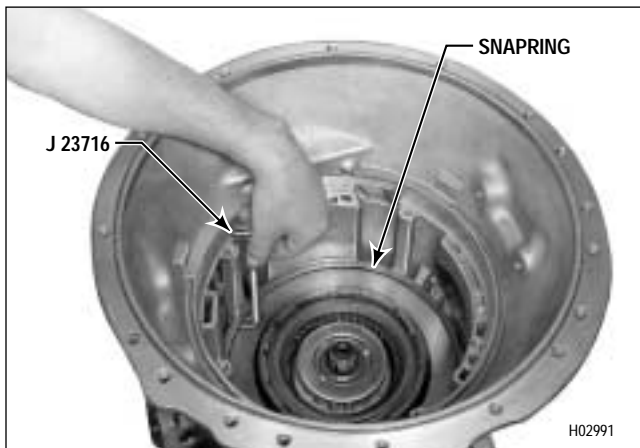
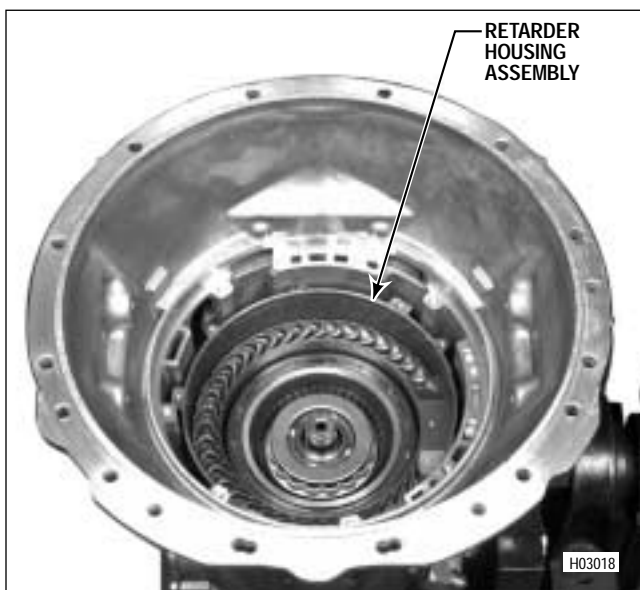

Figure 7-20. Checking Third Clutch Running Clearance (Models Without Retarder)
Figure 7-21. Installing Retarder Housing Assembly (Models With Retarder)
- For models without retarder, proceed with Step (2).
- For models with retarder, skip Steps (2) through (5) and proceed with Paragraph 7-7b.
(2) Install the third clutch backplate, aligning its tangs with those of the three clutch plates (Figure 7-20). For models prior to S/N 3210668026, this plate is identified by the Mark 4. For later models, there is a square stamped on a single external tang.
(3) Install the snapping that retains the backplate (Figure 7-20). The snapping is identified by a green mark and is 0.155–0.157 inch (3.94–3.99 mm) thick. The snapping gap must be at the 12 o'clock position (viewed from the front of the transmission housing), and must be fully seated in its groove.
(4) Using third clutch clearance gauge J 23716 (Figure 7-20), check the clutch running clearance. The thin end of the gauge should pass between the snapping and the backplate; the thick end should not. The running clearance is correct with a dimension of 0.028–0.119 inch (0.74–3.02 mm).
(5) If clearance is excessive (larger end of gauge enters plates), new clutch plates should replace worn plates. Refer to the wear limits in Section 8 for clutch plate dimensions.
(6) Skip Paragraph 7-7b and proceed with Paragraph 7-7c.
b. Retarder Housing Assembly. Install the retarder housing assembly, stator blades upward, aligning the oil jumper tube holes with the PTO opening in the transmission housing (Figure 7-21).